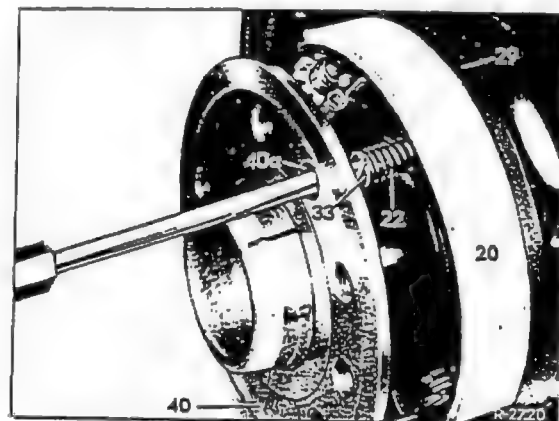

Fig. 42-28/4
5. On the first version slightly compress the pressure spring (22) with a hexagon socket wrench, turn the retaining pin 90° and remove the spring together with the pin through the assembly hole in the rear axle shaft (Fig. 42-28/4).